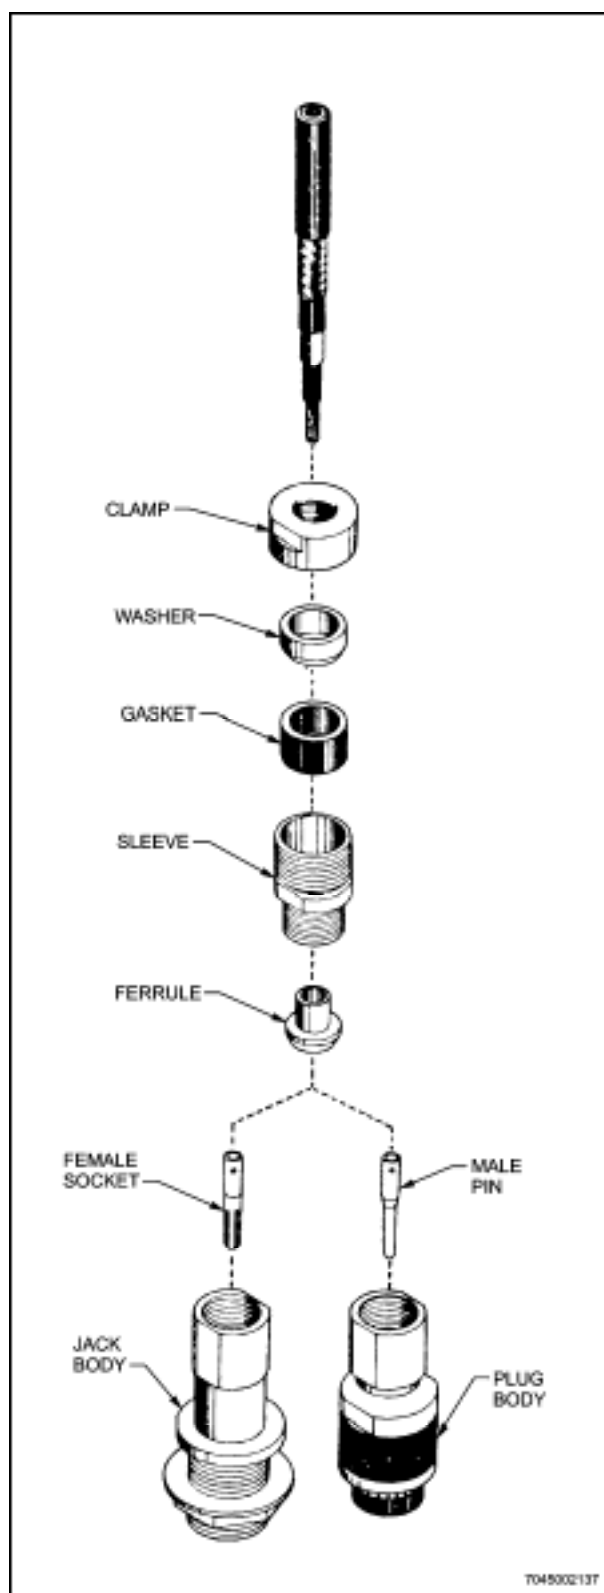

Figure 12-31 Pulse Connector - Rubber Insert
- b. **Rubber Insert Version** consists of a plug or jack body assembled to coaxial cable with clamp, washer, gasket, sleeve, and ferrule. (See Figure 12-31). Plug UG-180A/U and jack UG-182A/U are typical of this version.
- a. Disassemble nut, washer, gasket, sleeve, and ferrule from plug or jack body. (See Figure 12-31.)